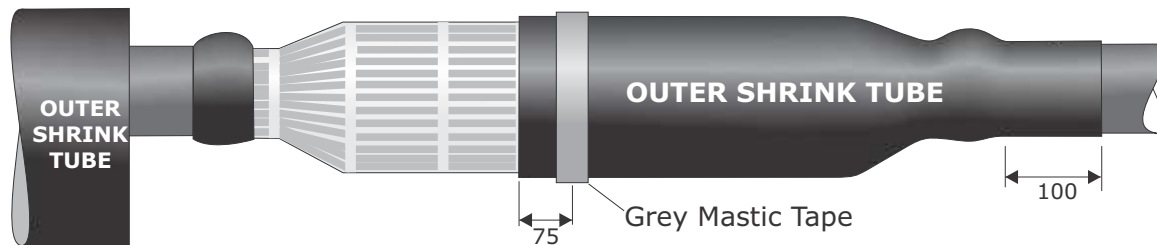

Fig 13
18. Apply a band of the grey mastic tape approx 75mm from the end of the tube as shown in Fig 13.